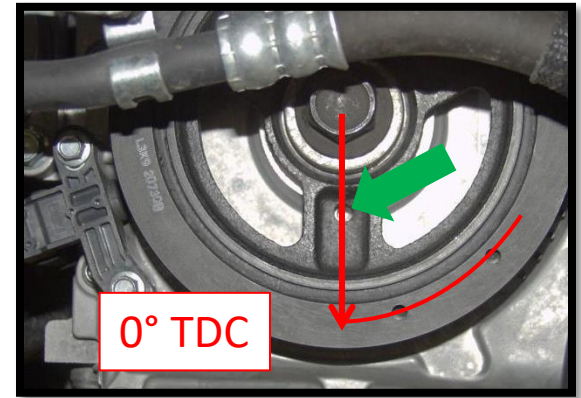

Figure 3g
- f) Continue turning the crankshaft clock-wise to Top Dead Center until the crankshaft hits the locator pin and stops. The hole in the crankshaft pulley will line up with the threaded hole in the timing cover (shown as 0° TDC in Figure 3g).
- g) Thread a 25mm long M6x1.0 bolt through the hole in the crankshaft pulley (green arrow) into the threaded hole in the timing cover. Gently tighten it, locking the crankshaft at 0° TDC (Figure 3g).